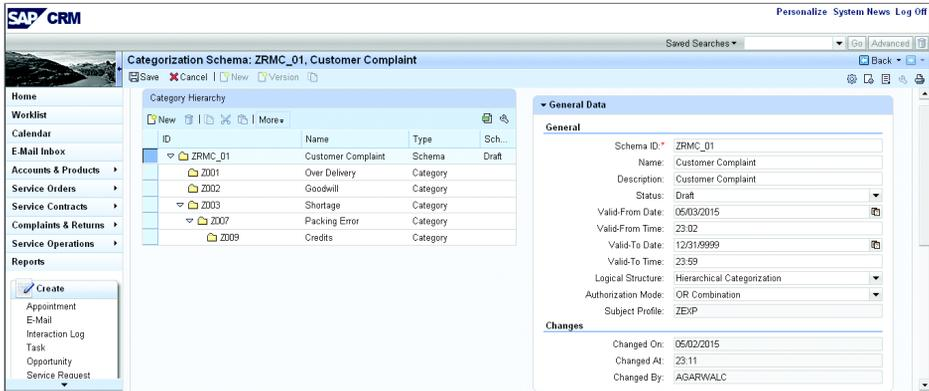

Figure 4.116 Maintaining the Code Groups and Codes in the Categorization Schema with Different Levels
6. The category in this example is the same as the code group and codes created in the previous topic. In this example, there are two levels under the SHORTAGE code: PACKING ERROR and CREDITS. So, let say when the complaints document is created, level 3 will be the outcome of the issue; that is, a customer called for a shortage issue and has to be credited for the shortages of the product. Information on the category schema creation is shown in Figure 4.116.